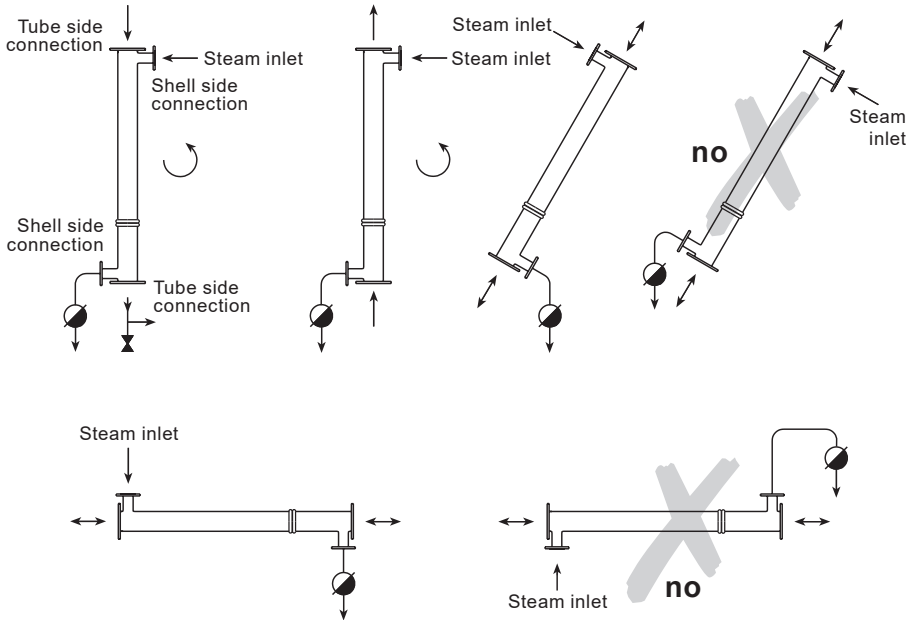

Fig. 3 Position when the shell side fluid is condensing steam
4.4 Due to the design features, this Series of heat exchanger can be installed in almost any position and with any direction of secondary flow. However, for maximum performance, countercurrent flow is advisable. To minimize the space required, the system should be positioned vertically. A vertical installation with tube side flow from top downwards will make it more difficult for substances to adhere to the walls and make it easier to expel the lime scale and dirt from the heat exchanger. This provides an effective trap for impurities and encrusted sedimentation. Figures 3 and 4 illustrate all possible installation positions.